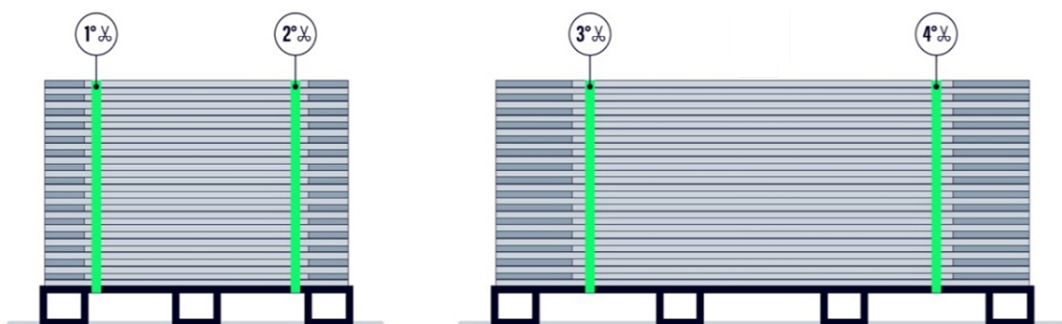

Figure 22: top box internal straps removal order.
- c) Cut the four internal straps (Figure 22).